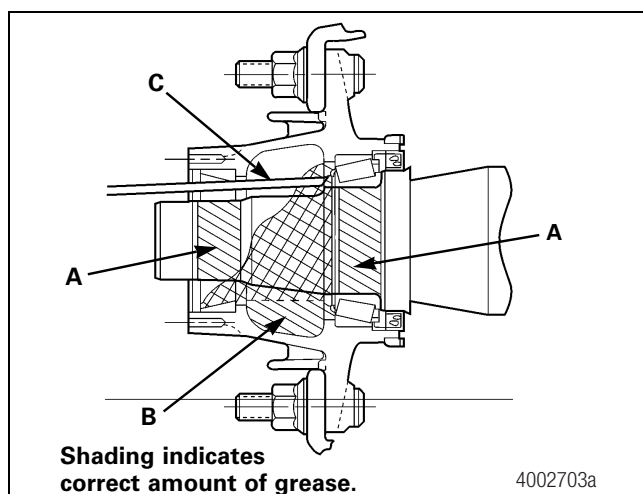

**Figure 13.7**
- C. Pack the area of the hub between the two bearings with grease up to the smallest diameter of the bearing cups. Figure 13.7.